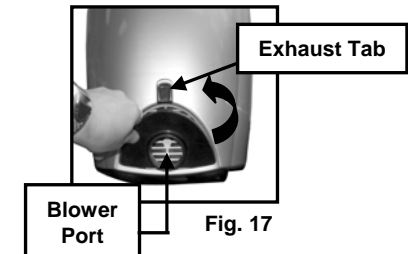

Fig. 17
- To place the blower port into the exhaust outlet, align the lower tabs on the blower port with the slots on the exhaust. Pull up on the exhaust tab and push the top of the blower port until it snaps into place. (Fig. 17)